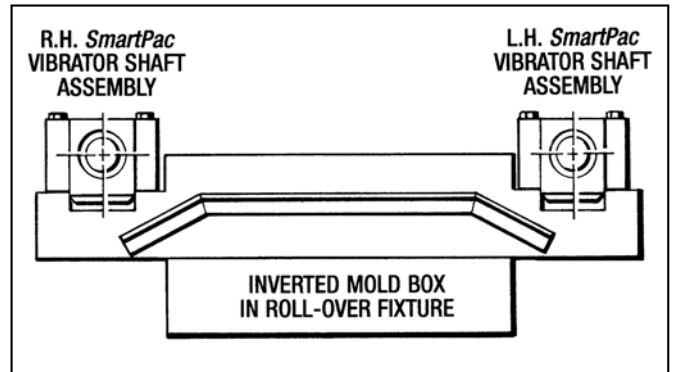

Figure 2 - Inverted Mold Box
2. Set the new *SmartPac* vibrator shafts into position on the mold bars. You may have to use the pry bar in each gap to nudge the bearing housings down until they seat themselves completely into the mold bar notches. See *Figure 2*.
**NOTE -** Don't forget that when the Mold Box is inverted the L.H. Shaft is on the right side and the R.H. Shaft is on the left side as shown in *Figure 2*.